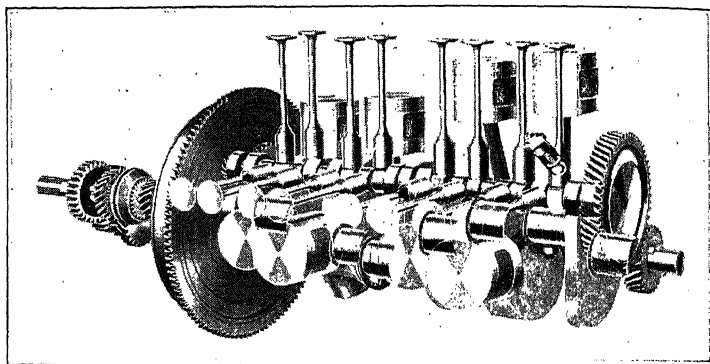

Fig. 4. Ford V-8 Engine
**Ford V-8 Connecting Rod Construction.** Fig. 4 illustrates a phantom view of the crankshaft, timing gears, camshaft, flywheel, valves, pistons, rods, and part of the transmission of the Ford V-8. These parts are shown in their relative positions. It will be noted that the method used for assembling the big ends of the connecting rods to the crankshaft, which is shown in light phantom view, is side-by-side construction. However, the Ford construction is distinctly different in one point from other side-by-side rods.